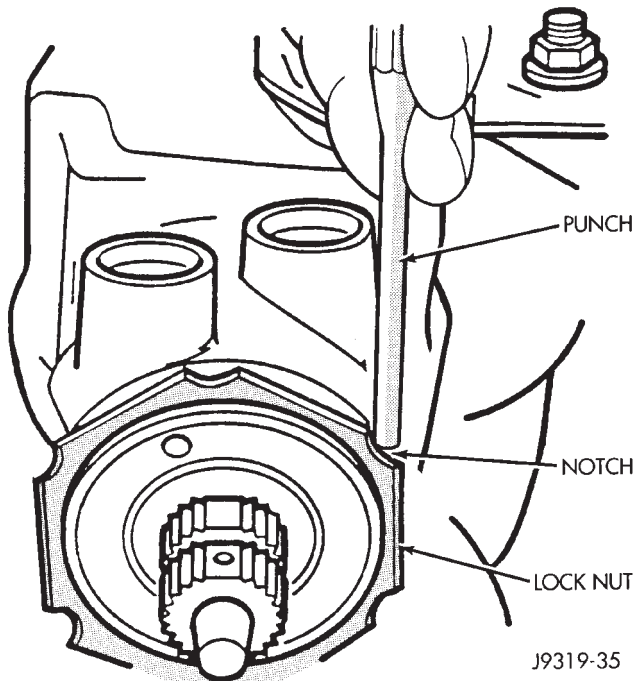

Fig. 23 Tighten Lock Nut
(7) Install adjuster plug into housing with Spanner Wrench C-4381 (J7624).
(8) Adjust bearing preload, refer to Thrust Bearing Preload Adjustment.
(9) Install adjuster plug lock nut, and using a punch (drift) in a notch, tighten securely (Fig. 23). **Hold adjuster plug to maintain alignment of the marks.**
(10) Adjust pitman shaft. Refer to Over-Center Adjustment.